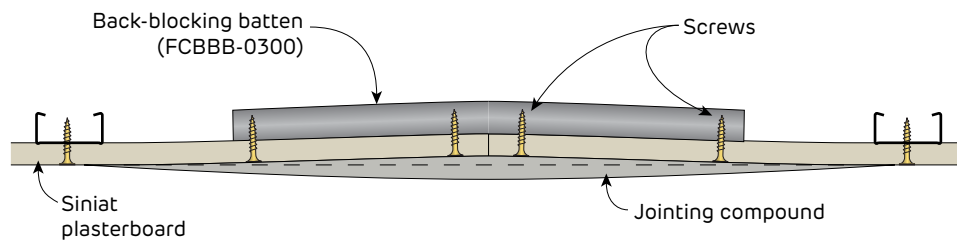
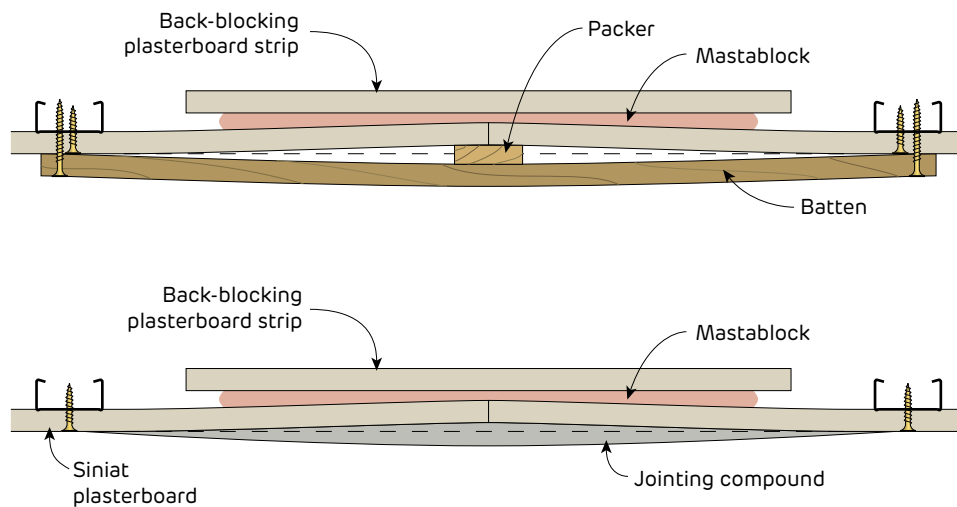

FIGURE 58 Creating a Recess on a Ceiling Butt Joint using Back-Blocking Battens
FIGURE 59 Creating a Recess on a Ceiling Butt Joint using a Temporary Packer
- > Create a recess by using either back-blocking battens as shown in Figure 58 or packers as shown in Figure 59 and 60.